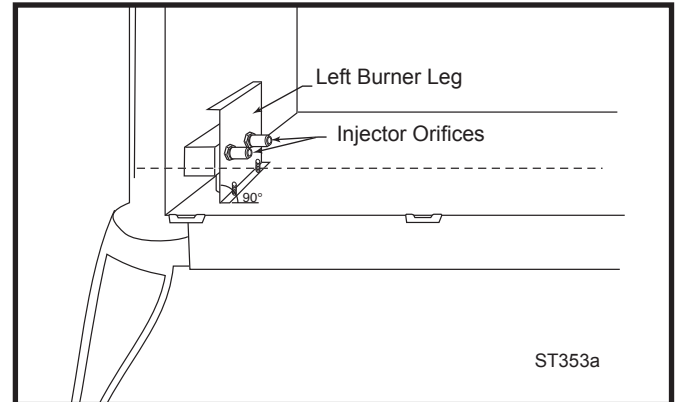

Fig. 19 Be sure injector orifices remain at 90° to the base.
4. Replace burner. Slide the burner in at an angle with left side lower than the right side. Slide the left side onto the injectors, making sure the burner leg remains at a 90° angle to the base. (Fig. 19) Lower the right hand side down in to place. Make sure the burner is as far left as possible and the injector shoulders are inside the burner.